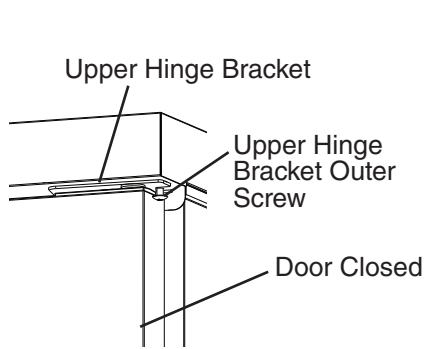
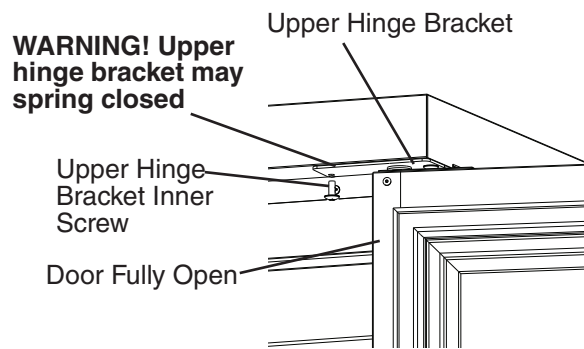

Fig. 31
Fig. 32
- 9) With the door closed, loosen, but do not remove, the upper hinge bracket outer screw. See Fig. 31. Next, open the door to the fully open position and remove the upper hinge bracket inner screw. See Fig. 32.